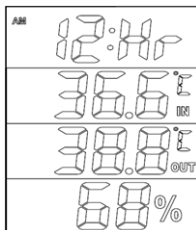

Fig. 2
4. Press the **MODE** button to advance to the *12- or 24-hour* mode and use the **ADJ** button to change value (see Fig. 2).